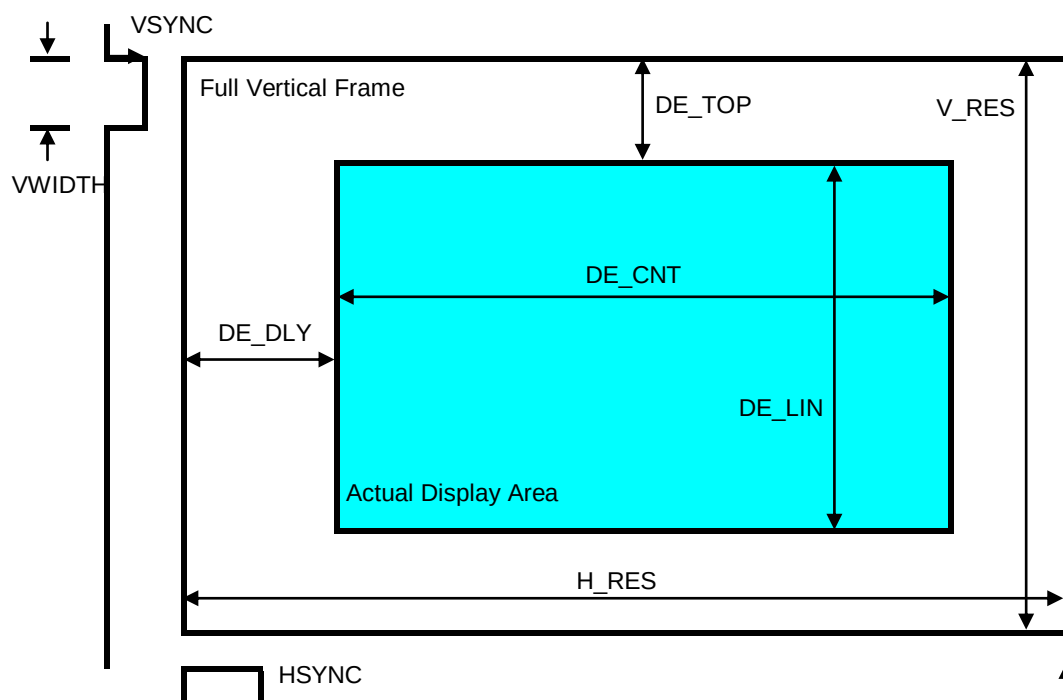

Figure 8-2 DE Generator Measurements
The HDMI Transmitter provides an internal Data Enable (DE) generator for use when the attached video source does not provide a DE signal with the other video signals. The DE signal is needed for encoding the TMDS output of the HDMI Transmitter. A DE signal is generated for use by the Transmitter, based on the values in the DE Generator registers and the arrival times of the HSYNC and VSYNC pulses from the video source. This DE signal is included in the control data sent to the HDMI Receiver across the link. The DE Generator registers are used only for DE generation. The registers are shown diagrammatically in Figure 8-2. The vertical sync pulse (VSYNC) occurs in the top area of the frame, before the active video area. The active (leading) edge is shown with an arrow. The horizontal sync pulse (HSYNC) occurs every line before the active video area during the DE_DLY time. The active (leading) edge of HSYNC is shown with an arrow.
Figure 8-2 shows the HWIDTH and VWIDTH dimensions relative to the complete frame time.